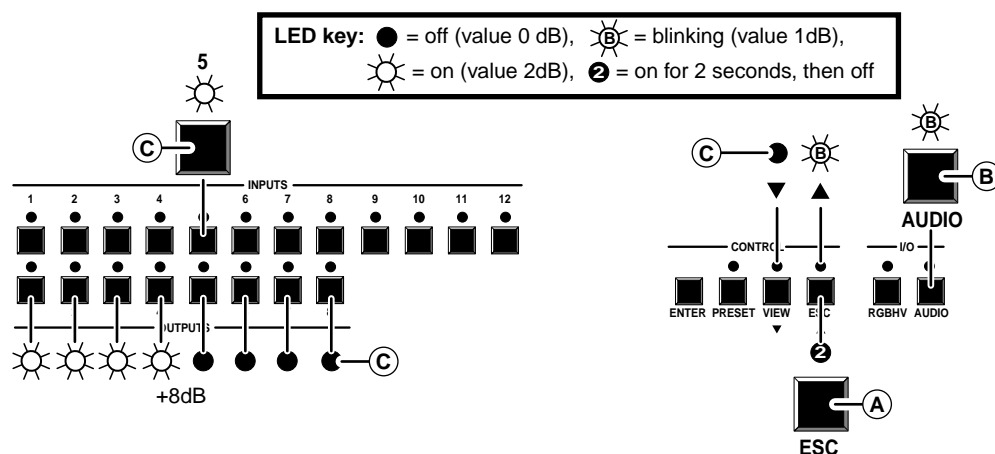
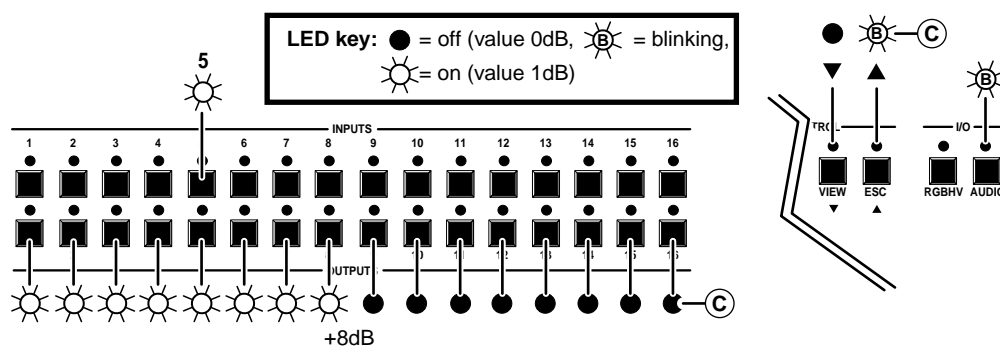
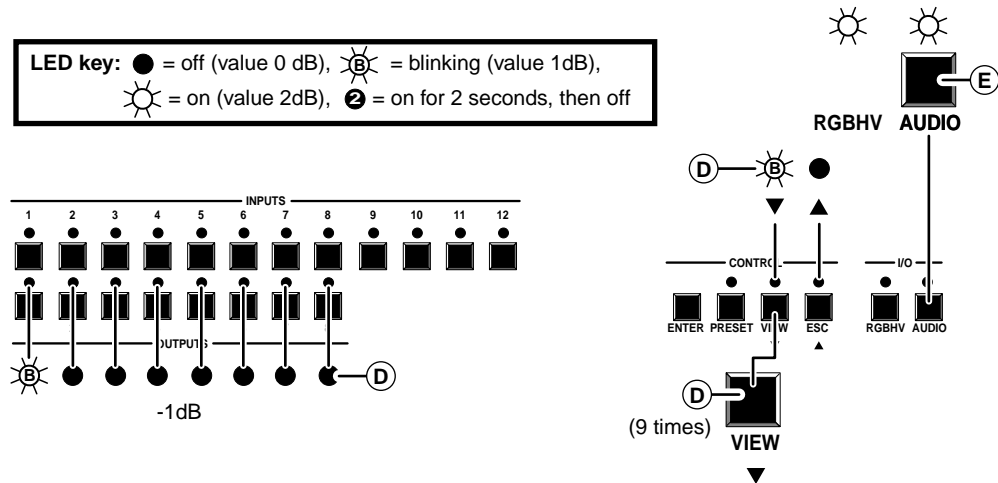
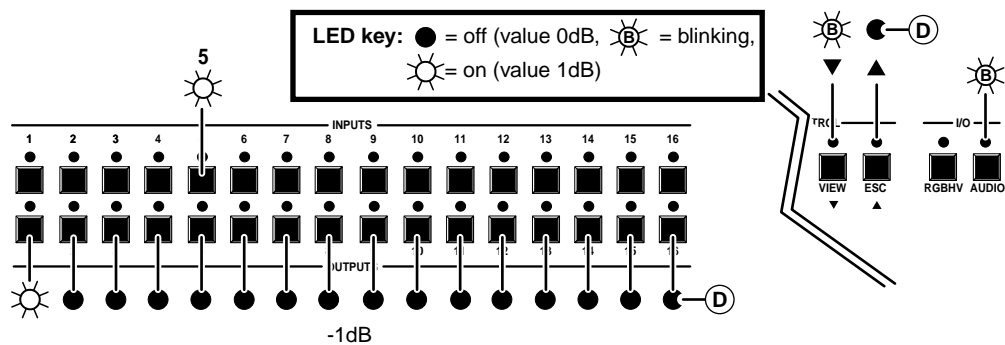

Figure 33 — Example 7: Viewing the audio level, CrossPoint Plus 84, 88, 124, and 128
Figure 34 — +8dB displayed, CrossPoint Plus 168 and 1616
Figure 35 — Example 7d: Adjusting the audio level, CrossPoint Plus 84, 88, 124, and 128
Figure 36 — -1dB displayed, CrossPoint Plus 168 and CrossPoint Plus 1616
Refer to figure 33, figure 35, and the following steps for an example of viewing and adjusting the audio level. Audio gain and attenuation is displayed differently on the CrossPoint Plus 168 and 1616, but the steps for displaying the value are the same. For this reason, figure 34 and figure 36 show the indications displayed on the CrossPoint Plus 168 and 1616 without duplicating all of the actions shown in figure 33 and figure 35.
Figure 33 and figure 34 show an audio level of +8dB displayed in the output LEDs on the two different CrossPoint Plus front panels.
- Ⓓ Press and release the View (▼) button once to decrease the audio level displayed in the output LEDs by 1dB. Press and release the View (▼) button several more times to decrease the audio level displayed in the output LEDs by an additional 1dB per button push. Note the output LED, View LED, and Esc LED changes that occur each time the View (▼) button is pressed and released. Figure 35 and figure 36 show the result of pressing the View (▼) button a total of 9 times.